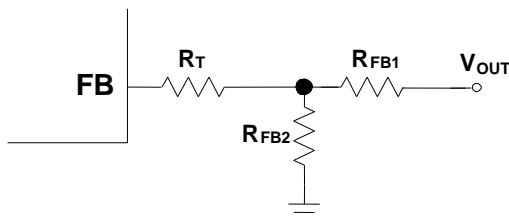

Figure 4: T-Type Feedback Network
The output voltage is set by the external resistor divider connected to FB (see Figure 4). The feedback resistor (R_{FB1}) sets the feedback loop bandwidth with the internal compensation capacitor. Choose R_{FB1} to be about 40kΩ when V_{OUT} is at least 1V. R_{FB2} can then be calculated with Equation (1):
Use of a T-type network is highly recommended when V_{OUT} is low (see Figure 4).